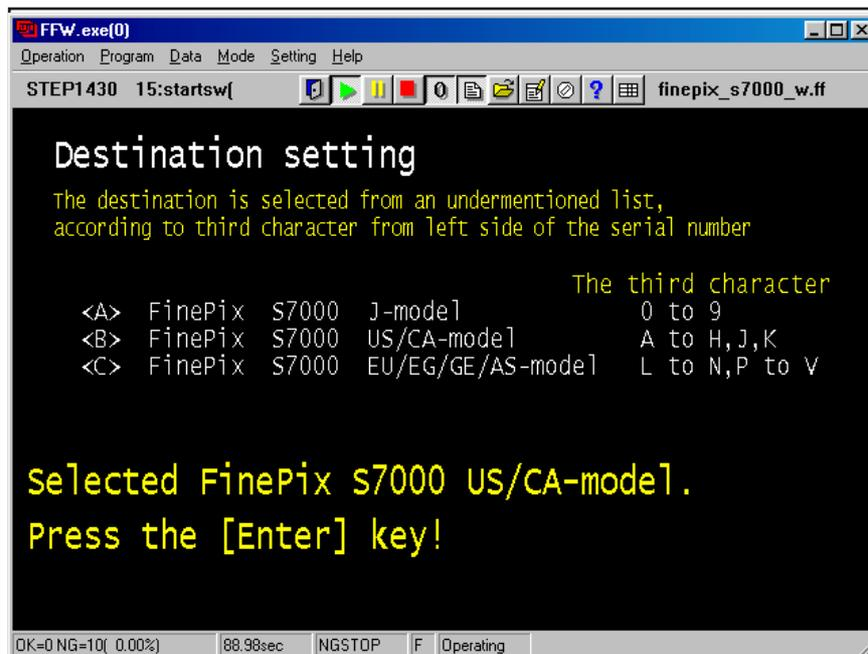

Fig.43
--> The [Destination Selected Screen (Fig.43)] is appears.